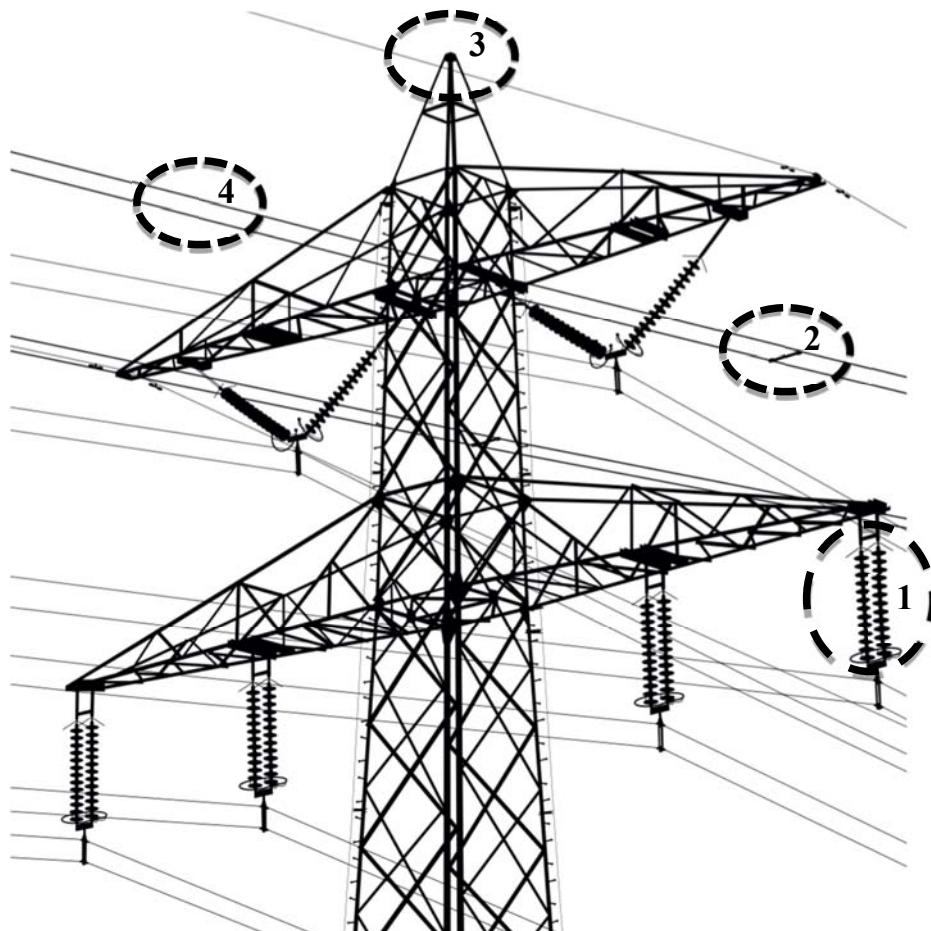

Figure 5.1
5. (a) Figure 5.1 below shows the common transmission tower used in Malaysia. Name and explain function of the component marked from 1 to 4.